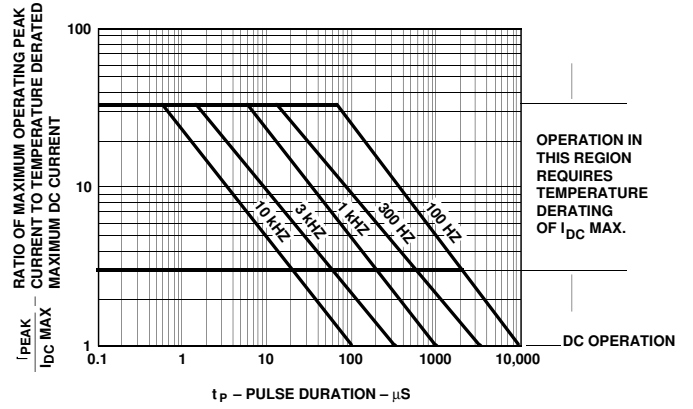

Figure 8. Maximum Allowed Peak Current vs. Pulse Duration - Green.
- See Figure 8 to establish pulsed conditions.